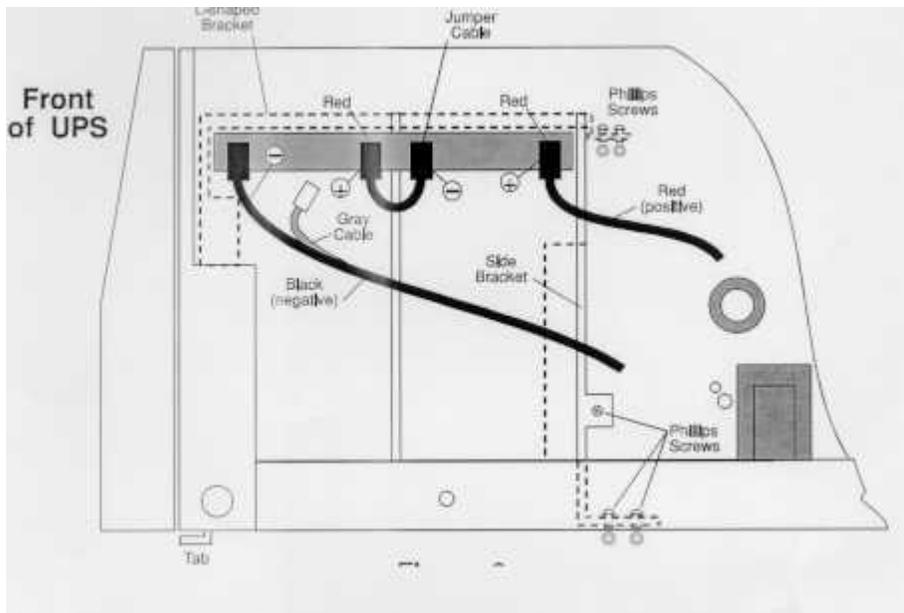
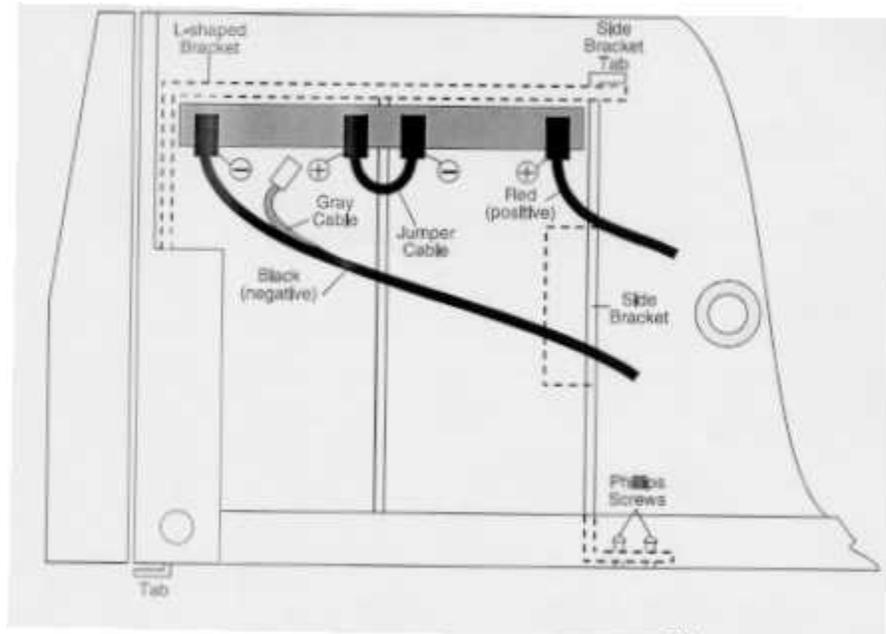

Figure 2
Figure 3
The figures on the next page show the batteries and battery connections. If the two battery brackets in your Fortress are fastened together with two Phillips screws, use Figure 2. If the two battery brackets in your Fortress are attached together with a tab and slot, use Figure 3.
10. If your UPS looks like **Figure 2**, follow the steps in the **first column** below.
If your UPS looks like **Figure 3**, follow the steps in the **second column** below.
If your UPS looks like Figure 2:	If your UPS looks like Figure 3:
<p>a. To reduce the chance of shorting across the battery terminals, put a piece of electrical tape over one terminal on each battery</p> <p>b. Refer to Figure 2 to find the Phillips screws holding the battery brackets in place. Remove all five screws and washers.</p> <p>c. Remove the side bracket first. To remove the bracket, slide it carefully away from the batteries and lift it out.</p> <p>Now, remove the top (L-shaped) bracket. (Note: Some units do not have an L-shaped bracket; instead, these units have a bracket that fits on top of the batteries. Remove this bracket.)</p> <p>d. Before you remove the old batteries, note the arrangement of the batteries and their terminals. When you put the new batteries in (in step 11), use the same arrangement.</p> <p>e. Lift the old batteries out of the unit.</p>	<p>a. To reduce the chance of shorting across the battery put a piece of electrical tape over one terminal on each battery</p> <p>b. Refer to Figure 3 to find the Phillips screws holding the battery brackets in place. Remove both screws.</p> <p>c. Before you remove the old batteries, note the the batteries and their terminals. When you put the new batteries in (in step 11), use the same arrangement.</p> <p>d. Remove both brackets and both batteries at one time.</p> <p>First, slide the batteries and brackets to the right until you can lift the bottom tabs of the L-shaped bracket through the slots in the bottom of the unit.</p> <p>Next, grasp both batteries firmly. Lift the batteries and brackets up about one inch. Then, carefully pull the and brackets toward yourself (not upward) to remove from the unit. (There is just enough space between the cabinet frame and the heatsink to pull the batteries</p>
11. If your UPS looks like **Figure 2**, follow the steps in the **first column** below.
<p>a. To reduce the chance of a short across the battery terminals, put a small piece of electrical tape over each of the terminals.</p> <p>b. Put the new batteries in place. Figure 2 shows how the batteries should be arranged and where the battery terminals should be.</p> <p>c. Put in the L-shaped bracket that goes over the top and one side of the batteries. Make sure that the L-shaped bracket fits into the two slots in the bottom of the UPS; then, put the side bracket back in place.</p>	<p>a. To reduce the chance of a short across the battery terminals, put a small piece of electrical tape over each of the terminals.</p> <p>Place both batteries and both brackets into the unit at one time.</p> <p>b. Assemble the brackets and batteries before placing them into the unit.</p> <p>Place the side bracket's tab through the slot nearest the edge of the L-shaped bracket. Slide the brackets over the batteries. Figure 3 shows how the batteries and brackets</p>